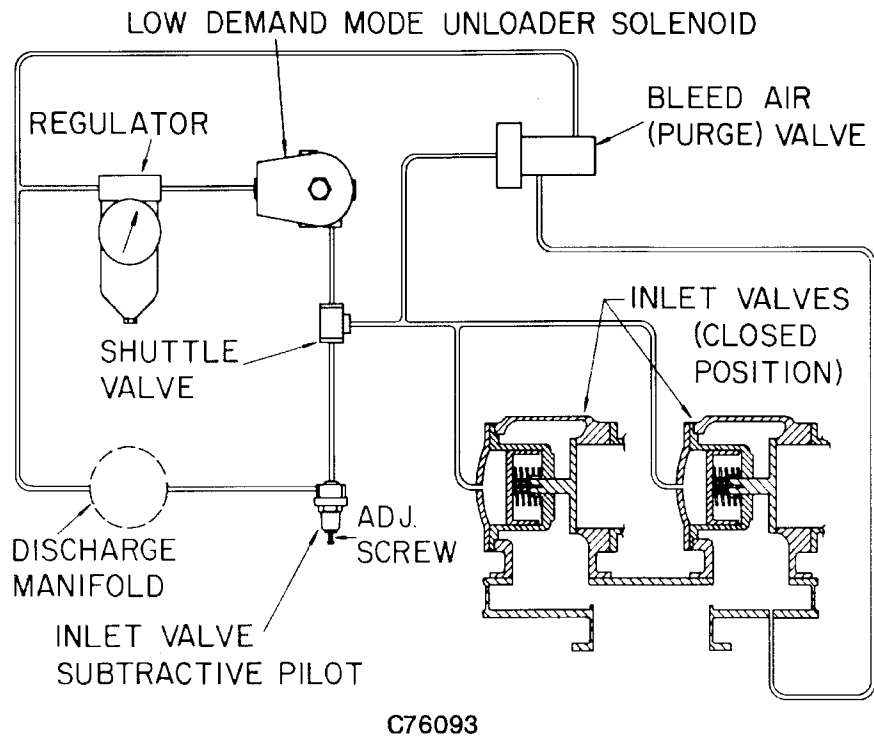

FIGURE 4-8 - INLET VALVE AND CONTROLS
INLET VALVE (Figure 4-8, page 9, this section) - On these units there are two (2) inlet valves operating in parallel. The inlet valve is a piston-actuated device which controls the compressor inlet and operates on air pressure from the inlet valve subtractive pilot. The valve is closed when full pressure is on the system and changes degree of opening in direct response to system pressure changes.
INLET VALVE SUBRACTIVE PILOT (Figure 4-8) is the same type that is used on the turn valve actuator control